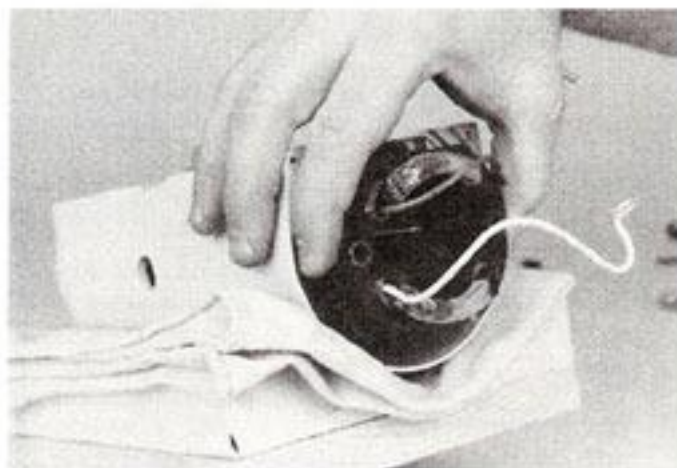

Fig. 37
- D. Assemble the two stator screws and tighten them by using long nose pliers and turn them slightly. Be sure the nose of the pliers is placed on the stator screws in the area that the stator seats so threads will not be deformed. Start the stator on the two stator screws and onto the ribs of the gear case and motor housing (Fig. 37). The two lead wires from the rear of stator must be on the same side as the slot in the gear case and motor housing. Insert the stator brush clips between the brush holder housing and brush holder insert. (A slot is provided in the brush holder housing for this brush clip). Insure that the brush clips are pushed in all the way so the brush and commutator on armature will clear them when assembled.